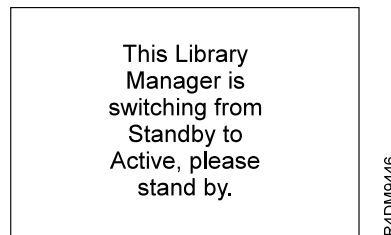

Figure 193. Library Manager Switching Window
If the active Library Manager is not responding and the standby Library Manager does not indicate that it is switching to active after five minutes (see Figure 193 on page 322), perform the previous steps for a single Library Manager on the one that failed.
1. Wait until the switchover completes and the standby Library Manager has become the active Library Manager. The switchover takes approximately ten minutes (see Figure 193).